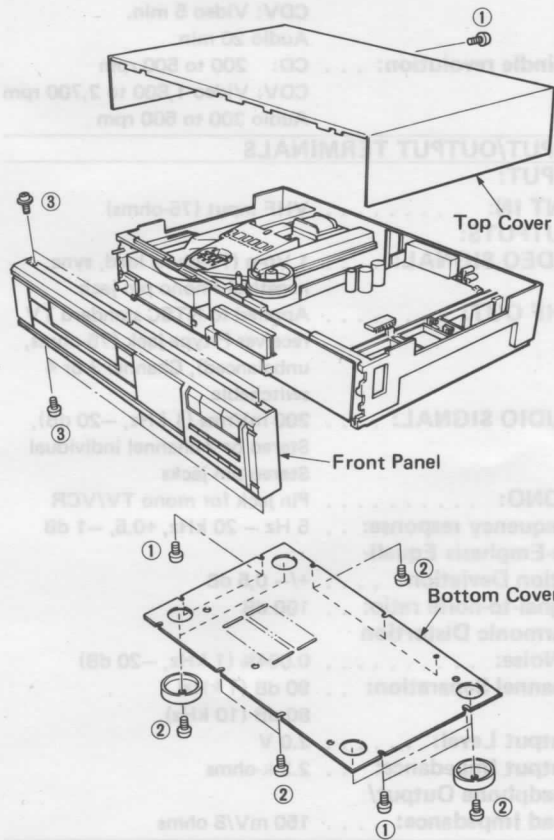

Fig. 1
Remove 5 screws (①) in Fig. 1, and slide the Top Cover to the back side.
Remove 9 screws (②) in Fig. 1
Remove 6 screws (③) in Fig. 1, and pull the Front Panel forward.